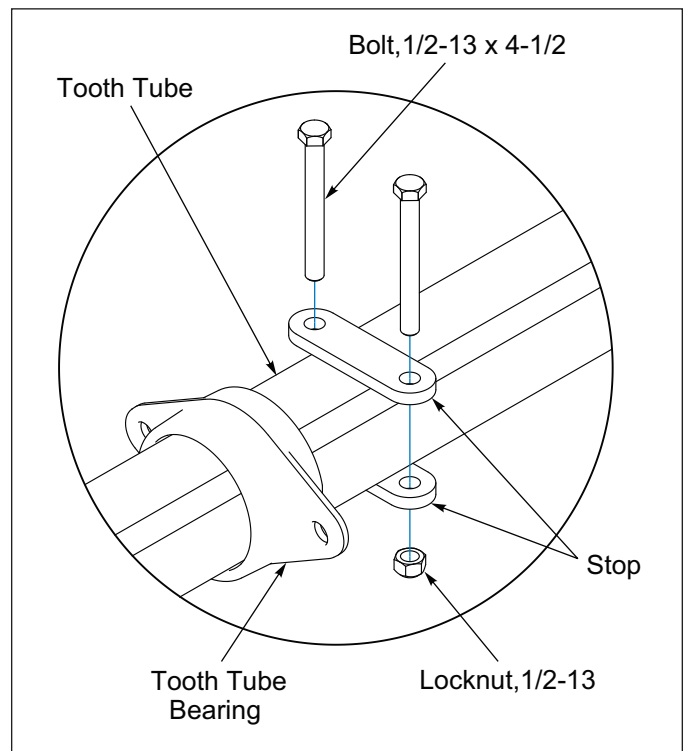

Figure 2-52: Wing Tooth Control Tube Stop
3. Place Stops on Tooth Control Tube against Tooth Tube Bearing to prevent Tooth Control Tube from sliding right or left. Secure with 1/2-13 x 4-1/2 Bolts and Locknuts. See **Figures 2-52, 2-53 and 2-54**.